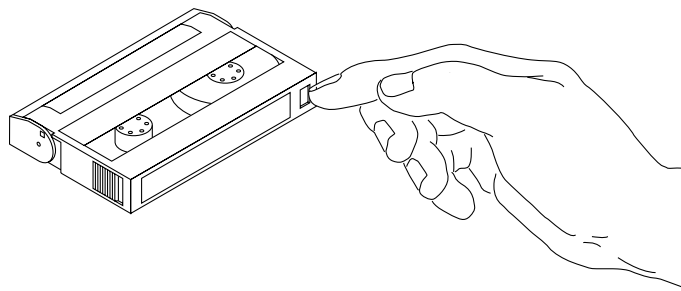

Figure 2-4 Setting the Write-Protect Switch
- ◆ **Move the write-protect switch away from the edge of the tape cartridge, as shown in Figure 2-4.**